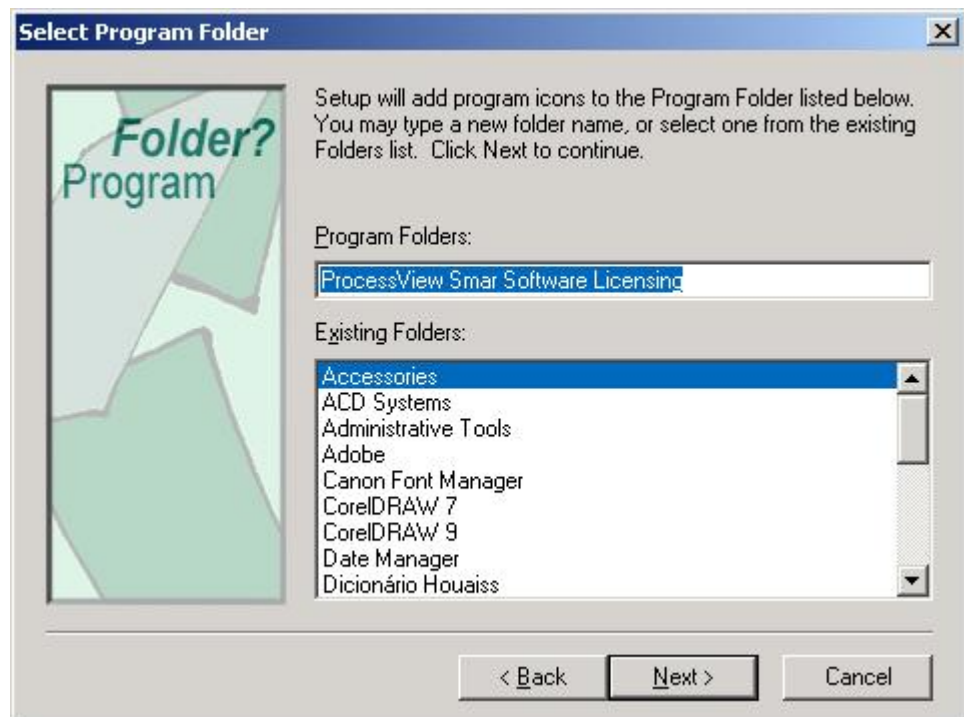

Figure 3.5. Select Program Folder
9. The setup will also create a program folder and copy all the shortcuts related to the License Utility into that program folder. The default program folder is **Smar Software Licensing**. You can specify a different folder if you want, as shown in **Figure 3.5**. Click **Next** to continue. The setup will start copying files to your computer and will display the status associated with the memory, disk space, and percentage of information copied.